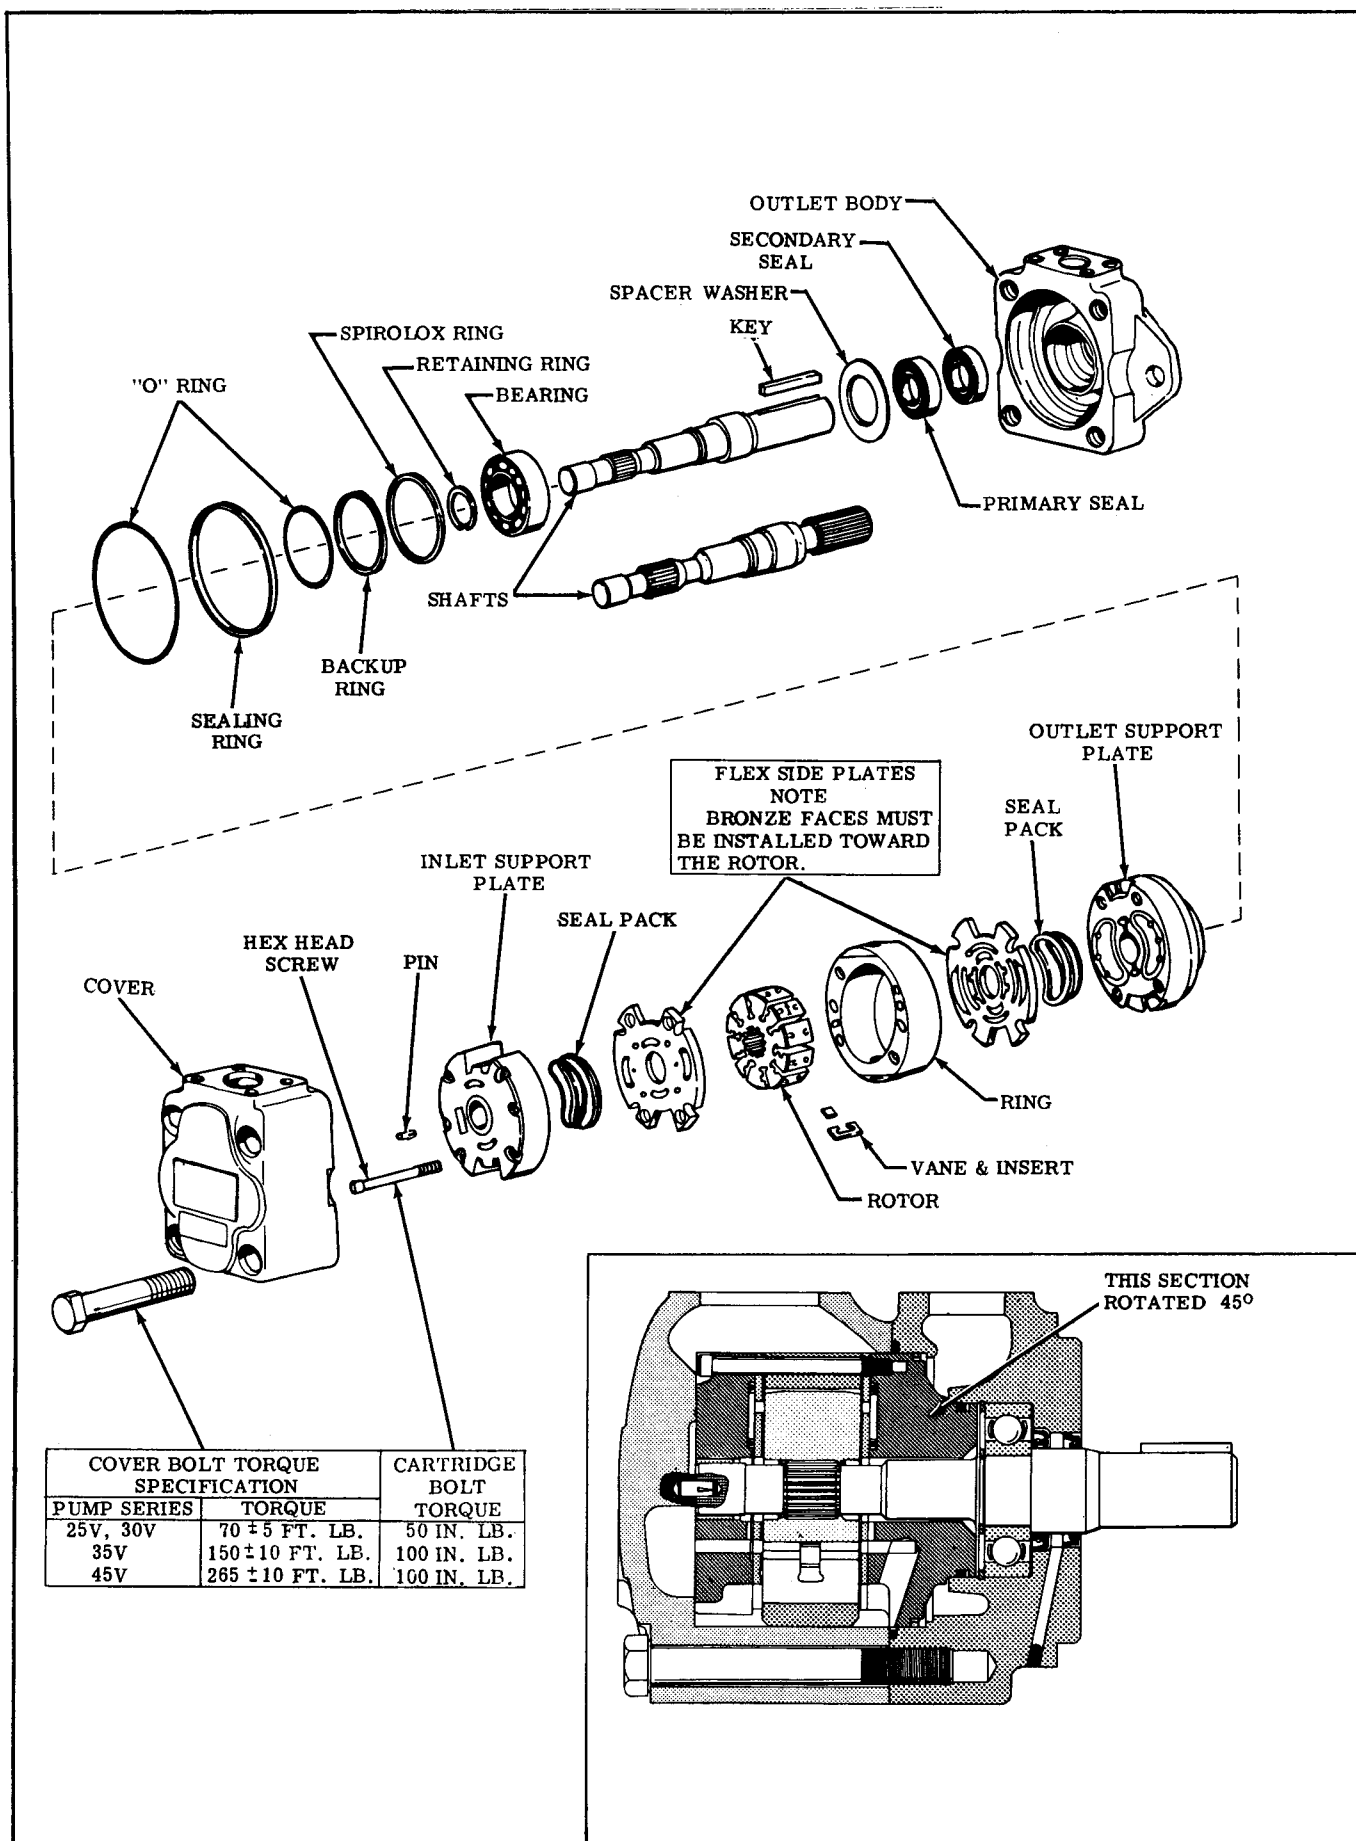
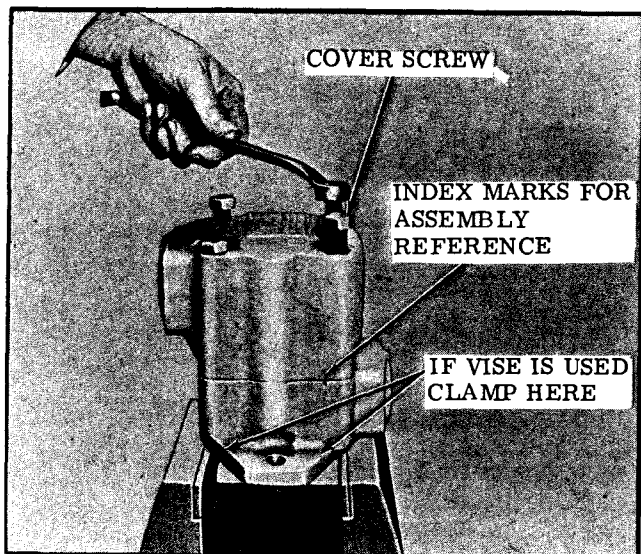
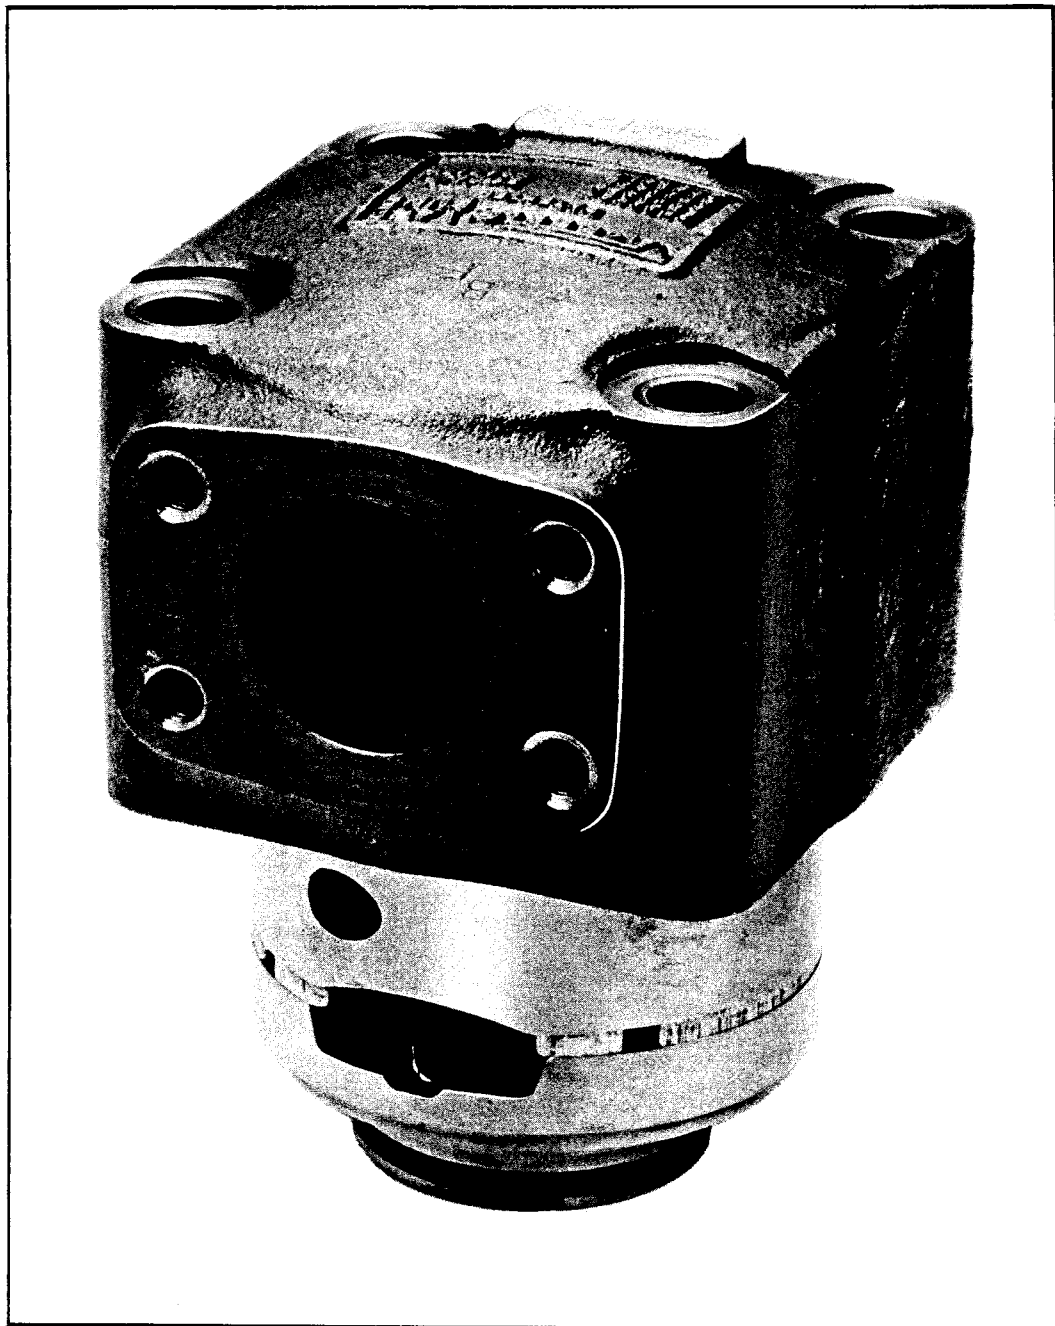

Figure 9 - Exploded and cross-section views of typical pump
Figure 10 - Beginning Disassembly
Figure 22 - Aligning cartridge kit with cover.
Plug all removed units and cap all lines to prevent the entry of dirt into the system. During disassembly, pay particular attention to identification of the parts, especially the cartridges, for correct assembly. Figure 9 is an exploded view which shows the proper relationship of parts for disassembly and assembly. Refer to Figure 1 and Figure 9 for the correct assembled relationship of the parts. Various steps in the overhaul process are shown in Figures 10 through 22.
1. Basic Pump- Remove the foot mounting and shaft key, if used. Support the pump on blocks or clamp the body in a vise as shown in Figure 10. If a vise is used, use protective jaws to avoid damage to the body and its machined surfaces. Mark the pump body and cover for correct reassembly. Remove four cover screws and lift the cover off the pump.
i. Install the cover over the cartridge. Tap lightly on the cover with your hand until each part centers. Remove the cover gently so as not to disturb alignment. Torque socket head screws to the torque noted on figure 9, and recheck kit alignment with the cover. Repeat until cartridge kit is aligned. (See figure 22.)
2. Basic Pump - Clamp the body in a vise or place on 2x4 wooden blocks to facilitate assembly. (See figures 10 and 11.)
g. Install the "O" ring and back-up ring on the cartridge, outlet support plate hub. See figure 9 for location.
k. Oil and install the cover to body bolts, (4 required). Torque to the value noted in figure 9.